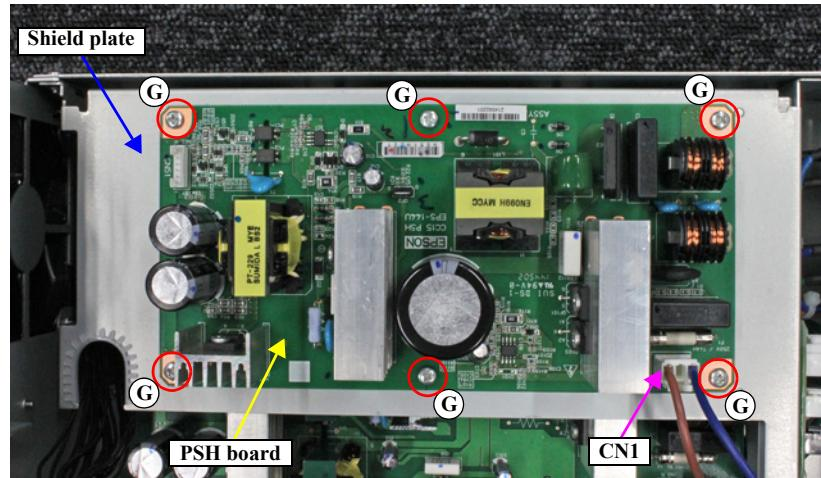

Figure 3-61. Removing the PSH board
18. Remove the four screws, and remove the shield plate (See Figure 3-61).